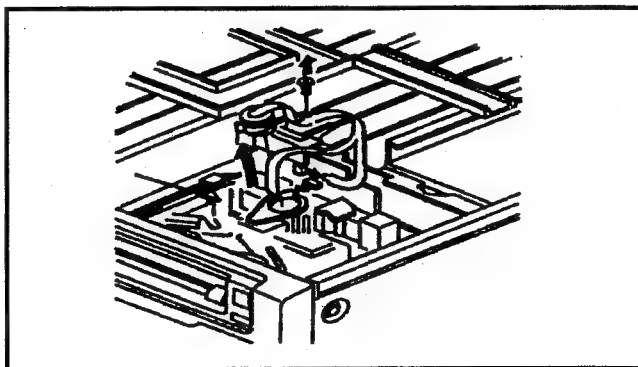

Fig. 6-1-1
3. Unscrew the 2 screws and remove the T1 GUIDE (Refer to item 6-1-1).
4. Remove the cleaning Arm Unit (Refer to item 6-1-1).
5. Disconnect the connector P5002 and P5003 on the Head Buffer P.C.Board. And remove the screw which is fixed with the flexible cable as shown in Fig. 6-1-1.